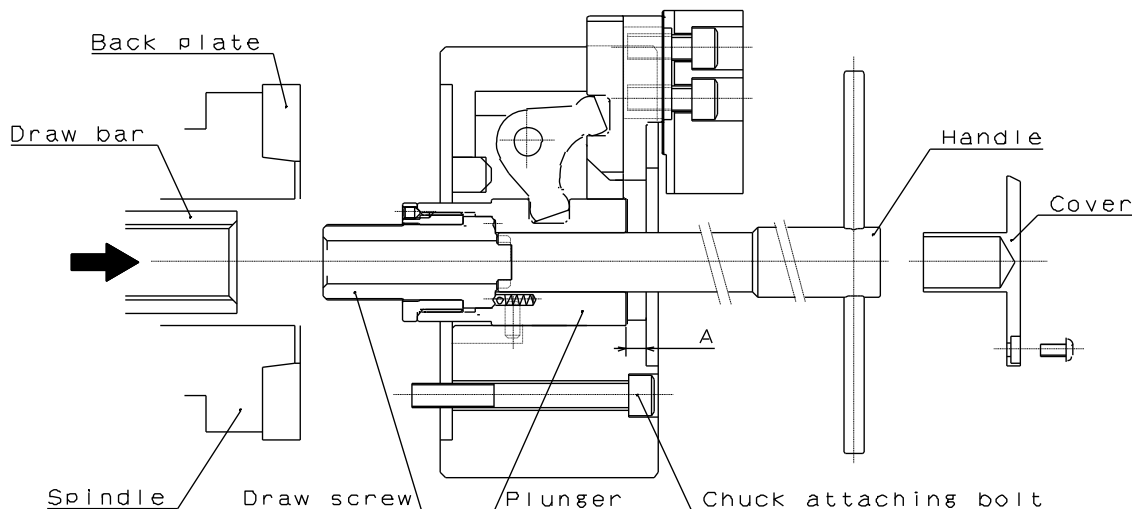

Fig.17
- The appropriate position of the wedge plunger at the cylinder forward end is the position when the dimension A in Fig.17 becomes as shown in the table below.